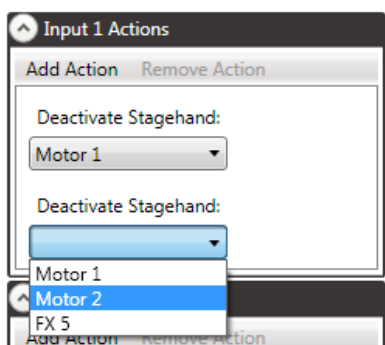

Figure 105
5. Repeat as necessary if you would like a single FX Input to deactivate multiple Stagehands—Motors or FXs (Figure 105).